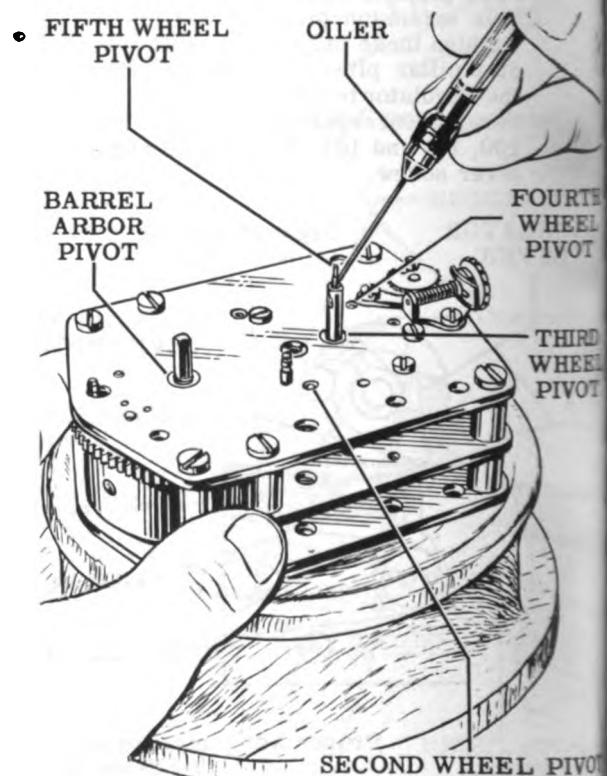

Figure 105—Mechanical Clock Movement
22. Turn the movement over so that it is dial side up on the work block. Oil the lower pivots of the barrel, the second, third and fourth wheels and the fifth wheel pivot in the third wheel shaft. See Fig. 105 and the Control Manual.